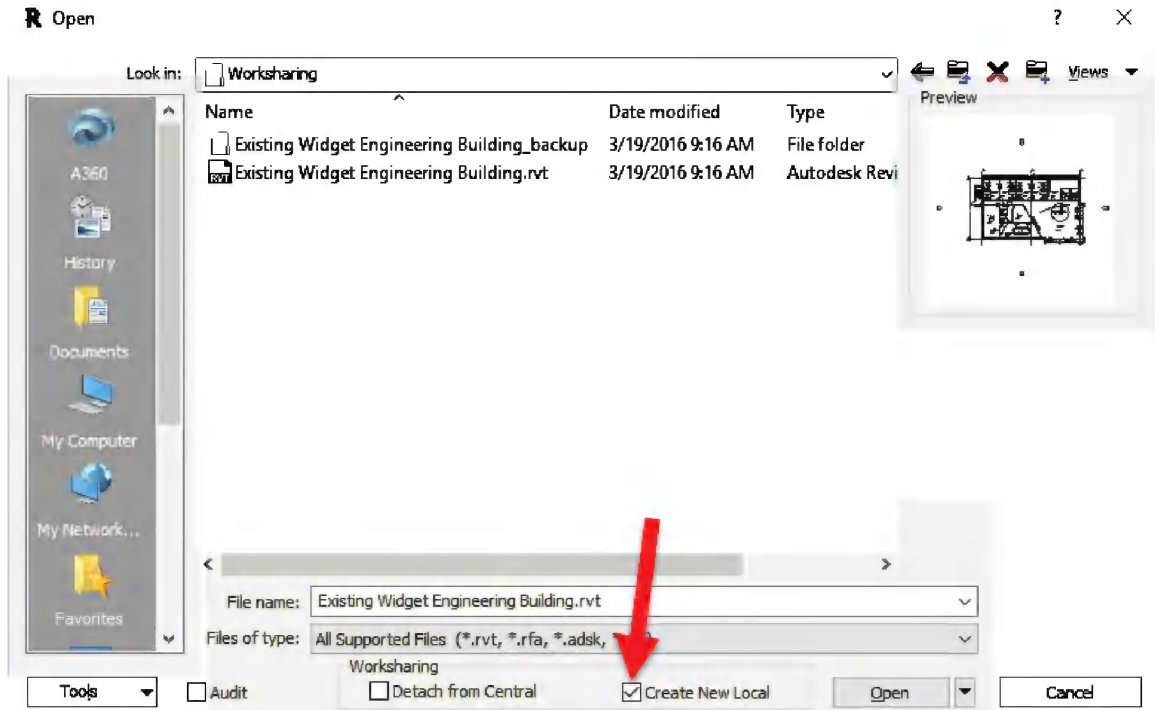

FIGURE 16-4.8 Central file selected; Open dialog
11. **USER A**: Browse to and select the Central File, which is the same file and location from which this section was started (See Figure 16-4.8). **Do not double-click or open the file yet.**
In the Open dialog (Figure 16-4.8) Revit can detect that the selected file is a Central File. When a Central File is selected, and the file version matches the version of Revit you are using, the **Create New Local** option is automatically checked. This is good—each user will always work in a Local File.
User A is now in a Local File, which has a special connection back to the Central File. In the background, the Central File was copied to the local Documents folder and renamed to include the username as a suffix (Figure 16-4.8).